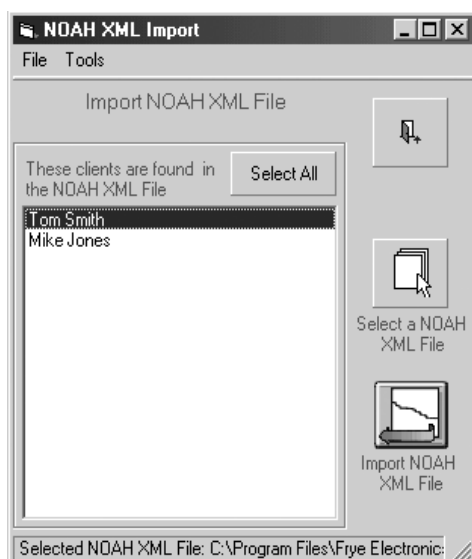

Figure 8.6—NOAH XML Import window
3. Select **Import NOAH XML File**. This will open the NOAH XML Import window. See Figure 8.6.